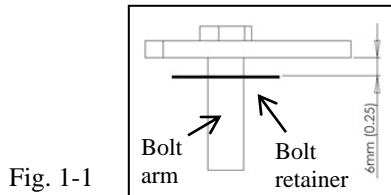

Fig. 1-1
- (1) Slide the plastic bolt retainers onto the threads of the bolt arm and leave a 1/4" gap. (Fig. 1-1)